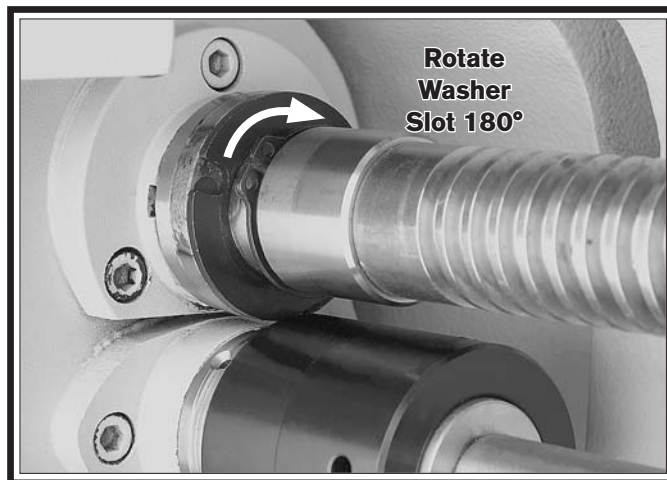

Figure 134. Shroud washer positioning.
9. With the pin completely seated in the bore and the head flush with the leadscrew shoulder, slide the shroud washer against the shoulder, then rotate the washer 180° to completely cover the head of the shear pin, as shown in **Figure 134**.